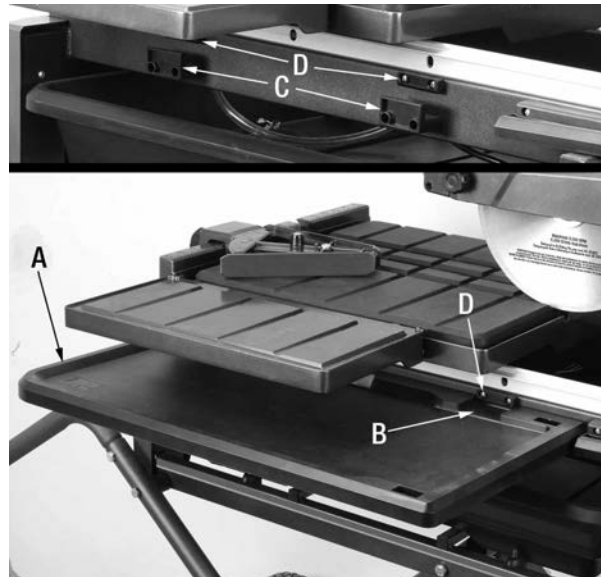

FIGURE 19
- 2) Next, install the front side tray extension (A) Fig.19. Align the engraved marks (B) with the rail hooks (C), slightly tilt the tray and hook it onto the two rail hooks and under the supports (D).